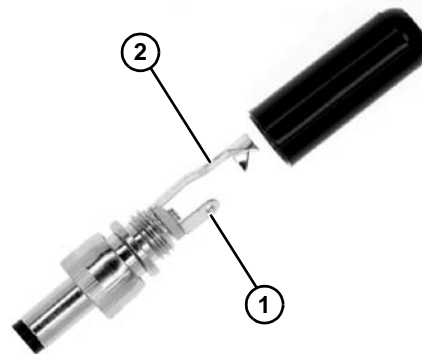

Figure 23
2. Wire and solder DC power to the two terminals of the provided DC power plug. Wire +VDC to the short lug (**Figure 23, item 1**) and -VDC to the long lug (**Figure 23, item 2**).